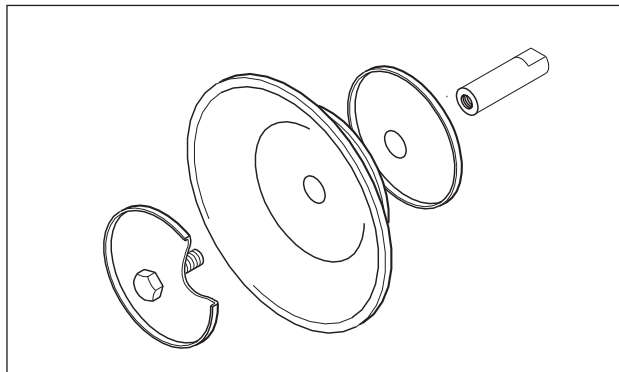

Fig. 13: Assembly of diaphragms with inner and outer plate
- Pumps DL 40, 50 and 80 with PTFE diaphragms have thicker internal diaphragm plates to reduce and displace the stroke. For subsequent conversion to PTFE diaphragm, the corresponding plates must be used (Fig. 13).